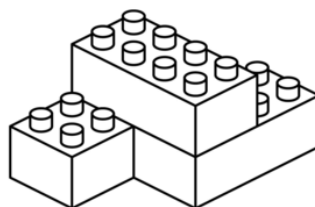

Figure 3
11. In the shopping mall play area one could find a pile of plastic building blocks. Mention **ONE** fabrication process, which is most suitable to manufacture the plastic building blocks shown in the Figure 3.